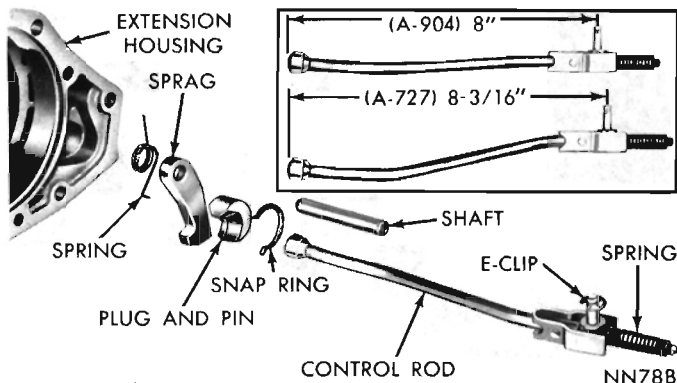

Fig. 35—Parking Lock Components
(1) Remove extension housing.
(2) To replace the governor support and parking gear, refer to "Governor and Support".
(3) Slide shaft out of extension housing to remove the parking sprag and spring (Fig. 35). Remove snap ring and slide the reaction plug and pin assembly out of the housing.
(4) To replace the parking lock control rod, refer to "Valve Body—Removal and Installation."
(1) Position sprag and spring in the housing and insert the shaft (Fig. 35). Make sure square lug on sprag is toward parking gear, and spring is positioned so it moves sprag away from the gear.
(2) Install reaction plug and pin assembly in the housing and secure with snap ring.
(3) Install extension housing and connect propeller shaft.